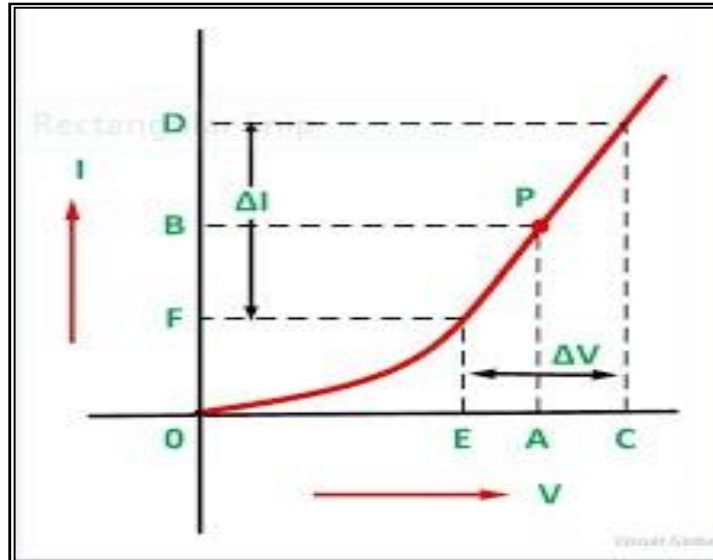

Figure 5 Calculation of Static and Dynamic Resistances
- 6) From the graph calculate static and dynamic resistances (Fig. 5)
Static resistance = $V_F/I_F = A/B$ (from fig.5)
Dynamic resistance = $\Delta V_F/\Delta I_F = (C-E) / (D-F)$ (from fig.5)